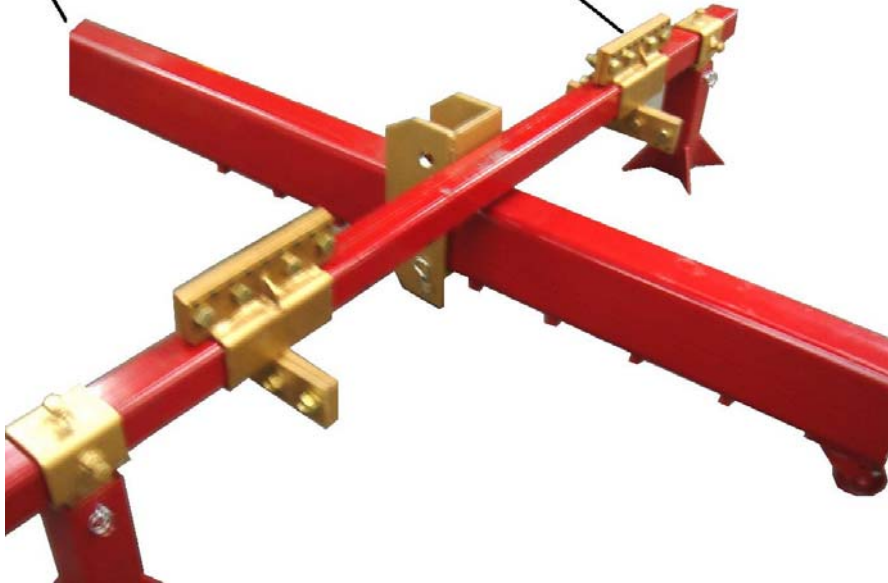

FIGURE 10 - SIDE PULL ON PINCHWELD BODY - NOTE CLAMP ORIENTATION AND LOW POSITION ON PUSHER BRACKET
- c. For side pulls, use dozer jack stand to secure farside of vehicle (see Figure 10)